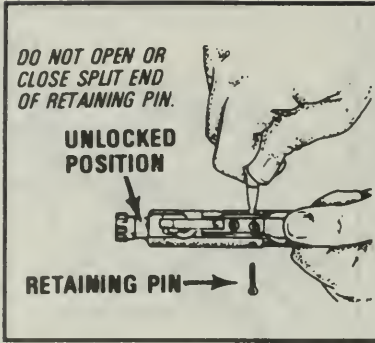

Figure 60. Removing the firing pin retaining pin
- j. Remove the firing pin retaining pin (Figure 60).